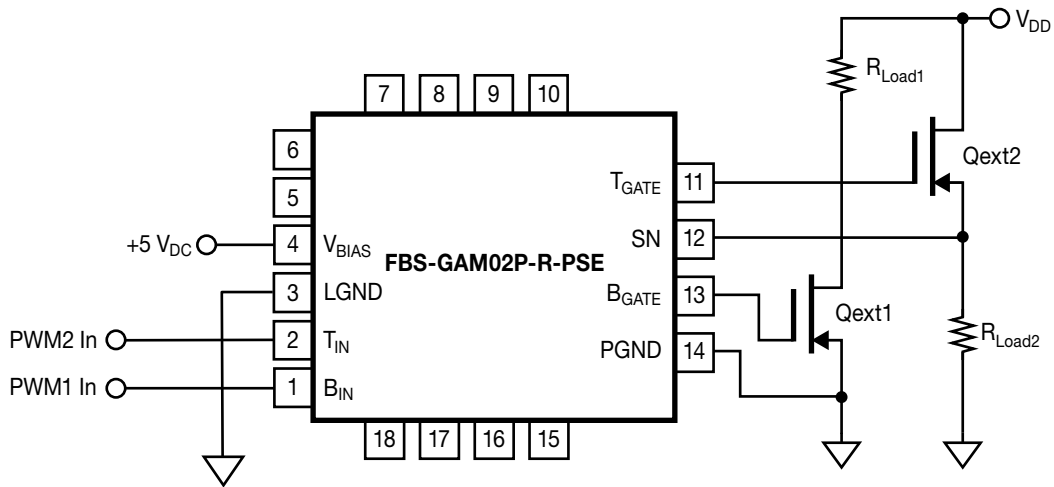

Figure 10. Independent High- and Low-Side Power Switches
The FBS-GAM02P-R-PSE incorporates a Power Good (PG) sensing circuit that disables both internal (low- and high-side) gate drivers when the +5 V gate drive bias potential (VBIAS) falls below the under-voltage threshold, UVLO-, or rises above the VBIAS over-voltage threshold level, OVLO+ (please refer to Figure 5 for the proper operational nomenclature and functionality versus the state of the VBIAS power supply). During the time when the VBIAS potential is outside of the pre-set threshold(s), the PG output (Pin 5) pin is logic low (“0”). Alternatively, when the VBIAS potential is within the pre-set thresholds the PG pin is logic high (“1”). The logic condition of the PG pin may be sensed by an FPGA or Microcontroller/DSP in-order to determine when the power switches in the FBS-GAM02P-R-PSE may be driven with pulse-width modulated (PWM) input signal(s) at the BIN and TIN logic inputs. If either the under-voltage and over-voltage protection features are not required or desired, then these may be disabled by connecting the \*SD (Pin 6) pin to VBIAS (pin 4) and/or the SD pin (Pin 7) to LGND (pin 3), as shown in Figure 10.